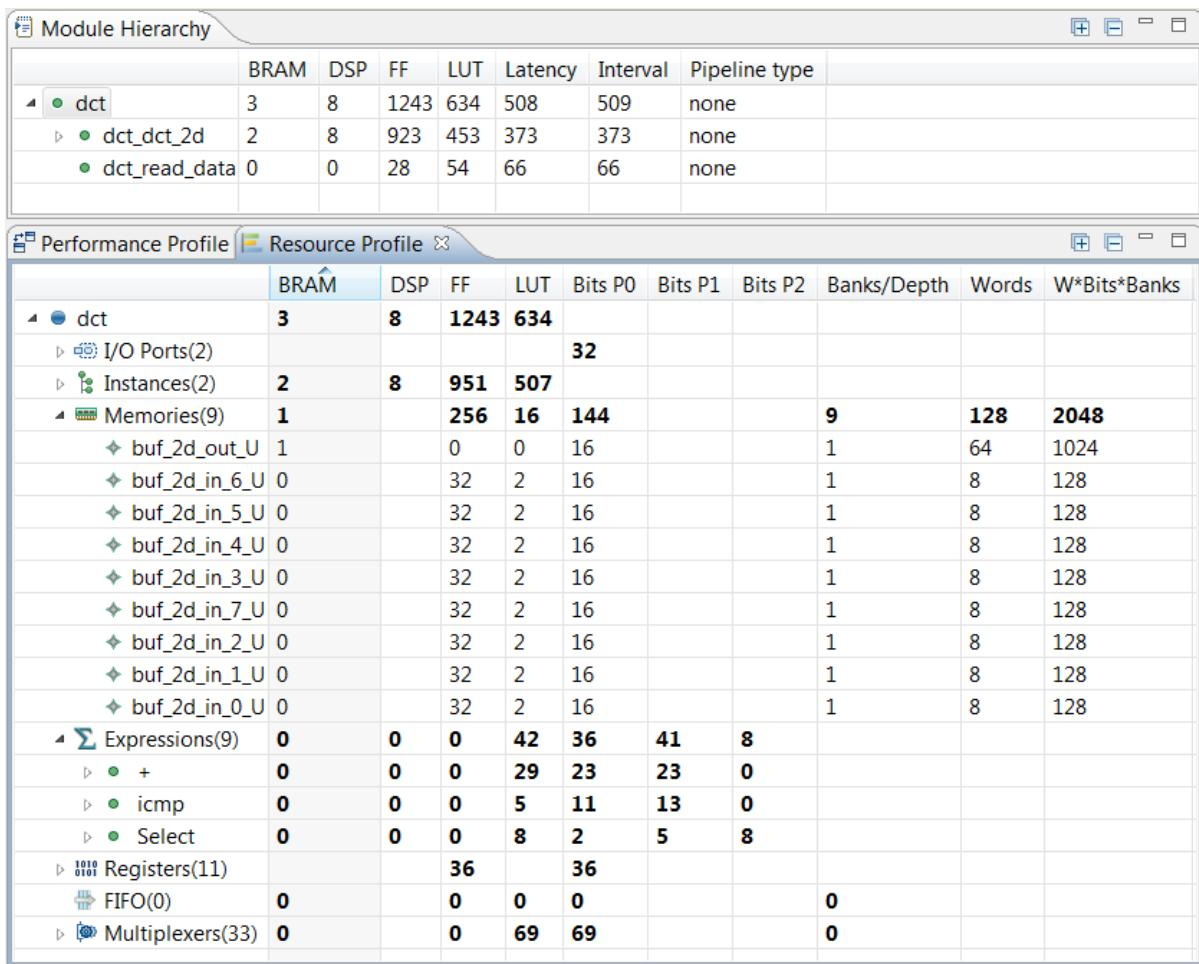

Figure 6-28: DCT Resource Profile
11. Expand the **Memories and Expressions** see the view in Figure 6-28.
As compared with Figure 6-28, the amount of logic to implement the memories at this level of hierarchy has doubled (the number flip-flops and LUTs has doubled). Each memory has been transformed into a Ping-Pong buffer to support dataflow. In this case, no “new” memories were added; the existing memories were converted into dataflow Ping-Pong memory channels. This doubled the number.